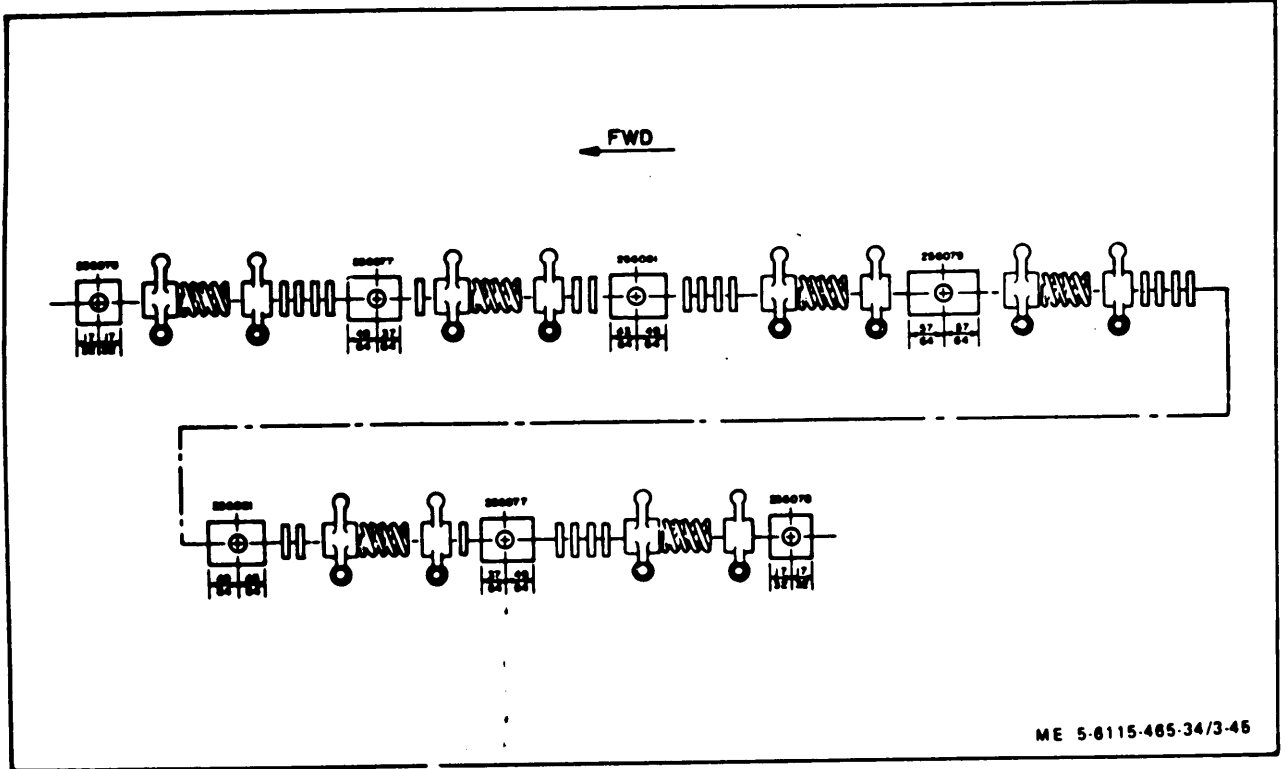
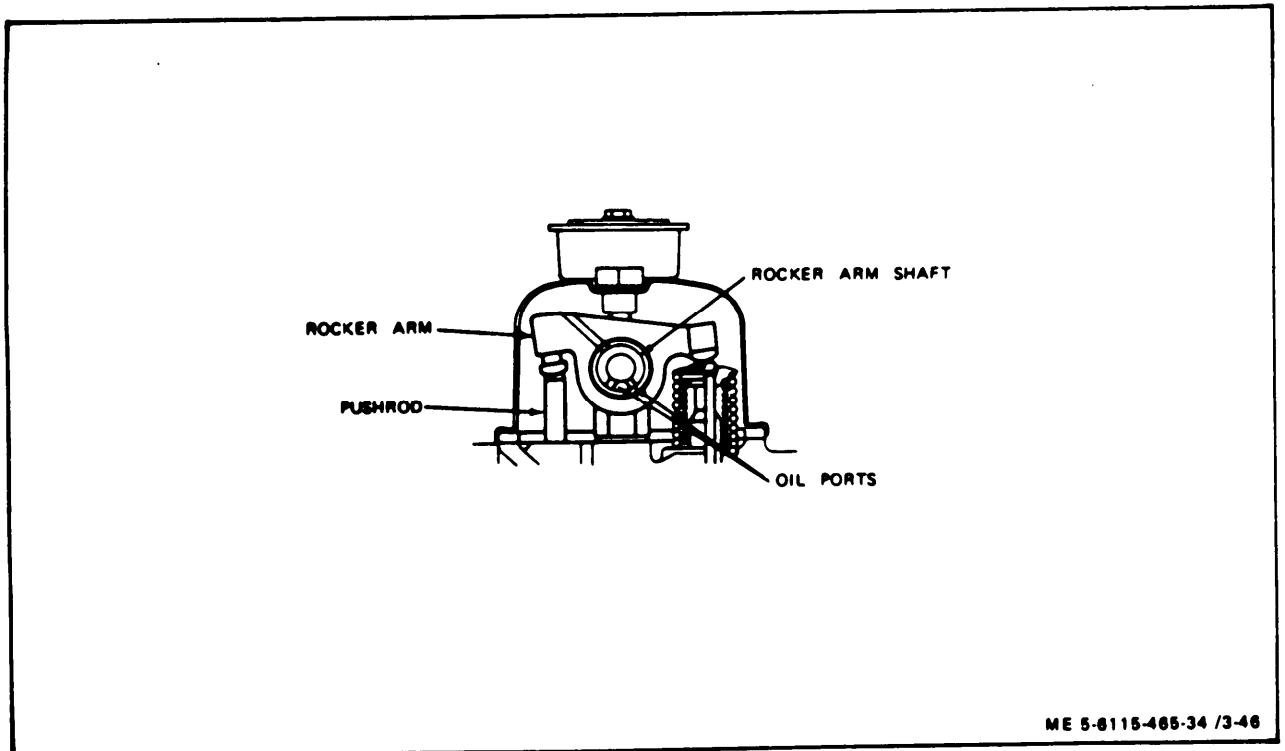

Figure 3-45. Rocker Arm Mounting Blocks Installation
Figure 3-46. Rocker Arm Shaft Positioning
(b) Assemble springs (16), rocker arms (15), spacers (14) and mounting blocks (13, 13A, 13B, and 20) onto rocker arm shaft (18). Make sure that mounting blocks and spacers are correctly installed (figure 3-45) and that oil holes in rocker arm shaft are correctly positioned (figure 3-46).